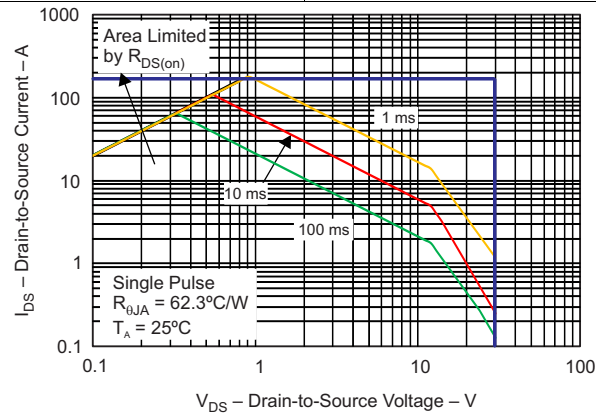

Figure 27. TPS2475x Maximum Safe Operating Area (SOA)
- (2) The temperature difference between PAD1 and PAD2 must be minimized. See the SOA curve Figure 27 and Power-Limited Start-Up section for temperature limited design.